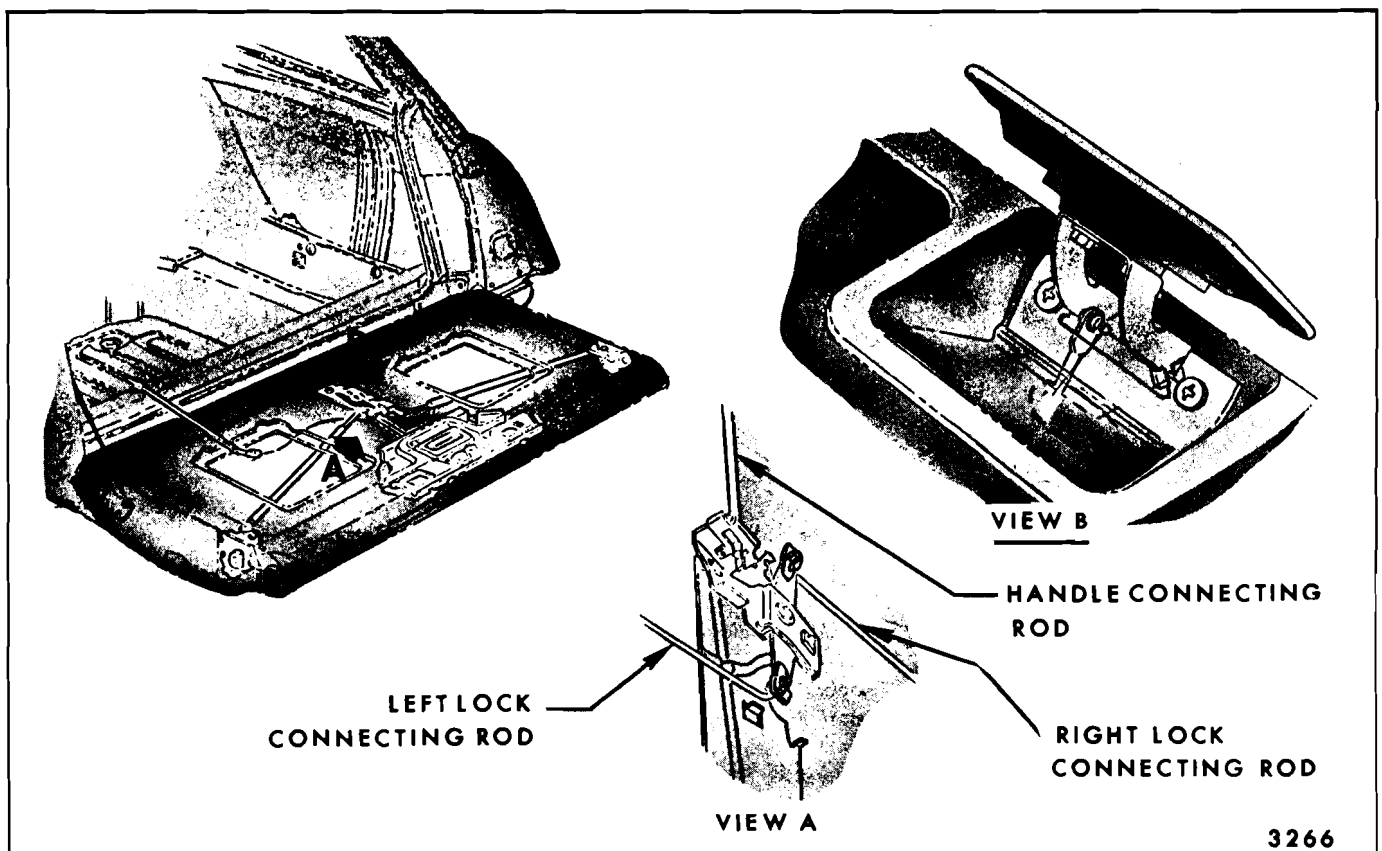

Fig. 9-23—Tail Gate Lock Remote Control Assembly - Gate Operation (Center)
5. Disengage remote control center handle from push rod and remove remote control and rod assembly (Fig. 9-23).